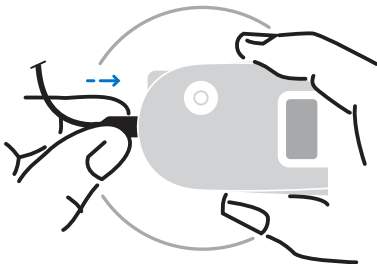

fig.1
- 1 Remove the actuator from its packaging and connect the actuator plug into the driver socket, ensuring the plug is correctly orientated in relation to the socket, and make sure the plug is fully inserted and secured. (fig. 1)